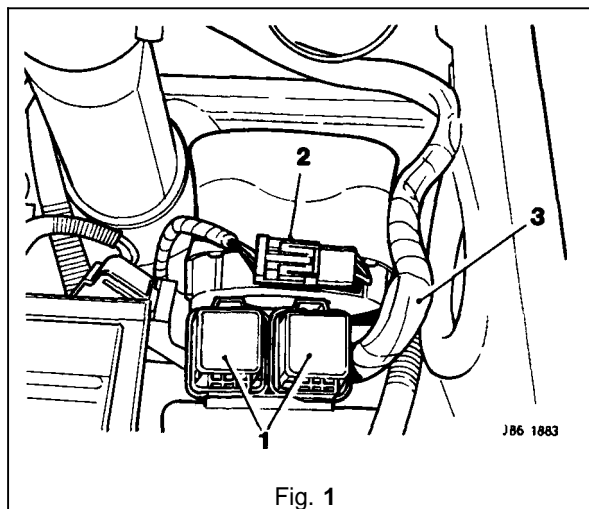

Fig. 1
- Identify the RH forward harness relays (1 Fig. 1) for subsequent refitting. Remove the relays and relay bases from the mounting bracket.
- Disconnect the siren harness multi-plug (2 Fig. 1).
- Reposition the side harness (3 Fig. 1) to gain access to the siren securing bolts.